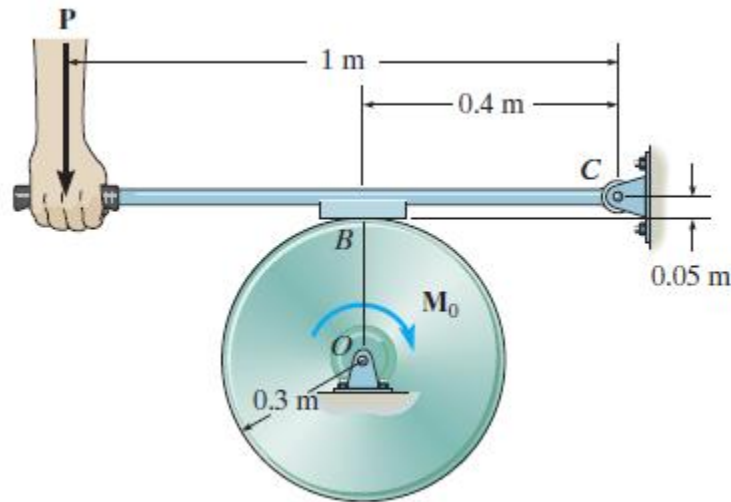

Figure Q3(a)
- (a) Figure Q3(a) shows a brake system that is used to stop a wheel from rotating. The wheel is subjected to a couple moment $M_0 = 360 \text{ Nm}$ counterclockwise. Determine the minimum force P , if the coefficient of static friction between the wheel and the block is $\mu_s = 0.6$.